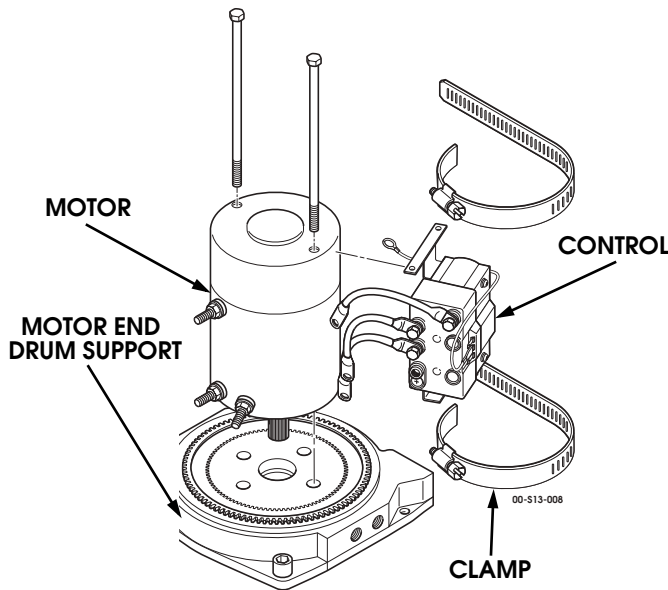

Figure 13-25: Control Unit and Motor
5. Place winch on end with motor end up (Figure 13-25).
- Secure motor to motor end drum support with two bolt assemblies. Tighten hex-head bolt to 60-70 lb-in. (7-8 N•m) (Figure 13-25).